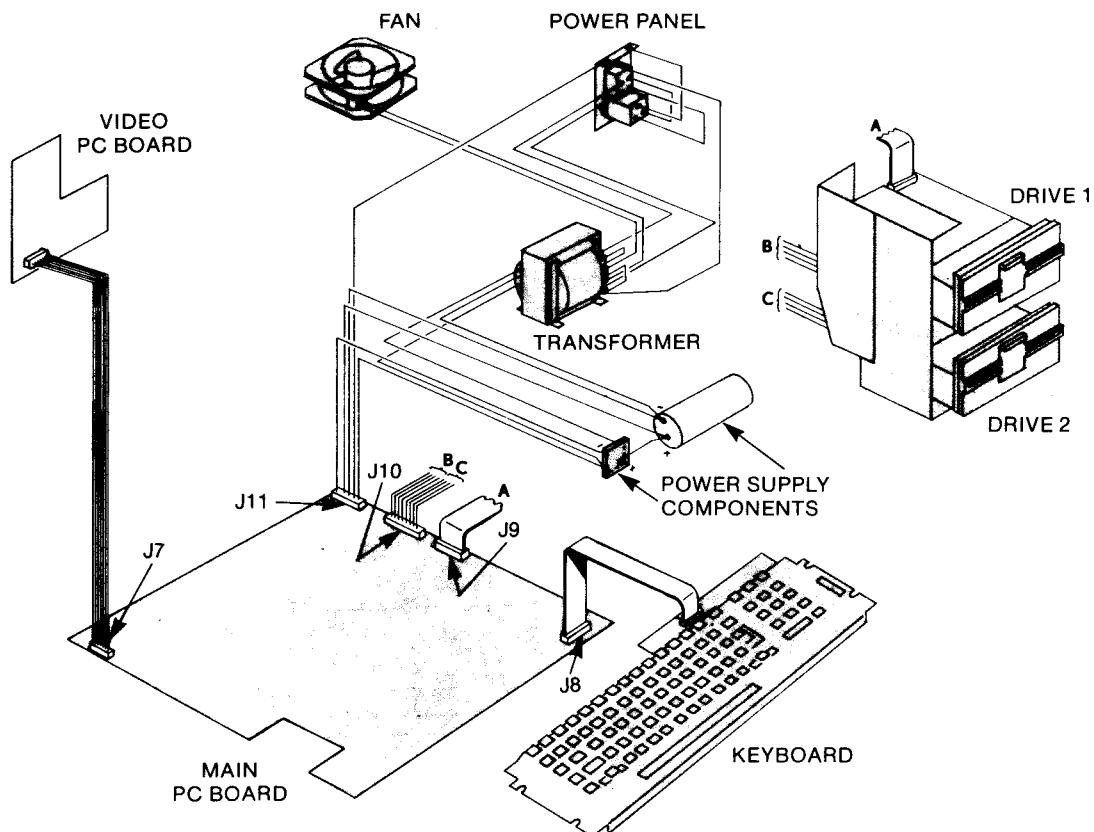

Figure 7-10
3) Disconnect the keyboard cable from J8 on the Main PC Board (see Figure 7-10 or 7-11). To remove the cable, pull straight up on the cable connector.
- 3) Disconnect the video cable from J7 on the Main PC Board (see Figure 7-10 or 7-11). To remove the cable, pull straight up on the cable connector.
- 5) Install the cables in J7 through J11 as shown in Figure 7-10 or 7-11.